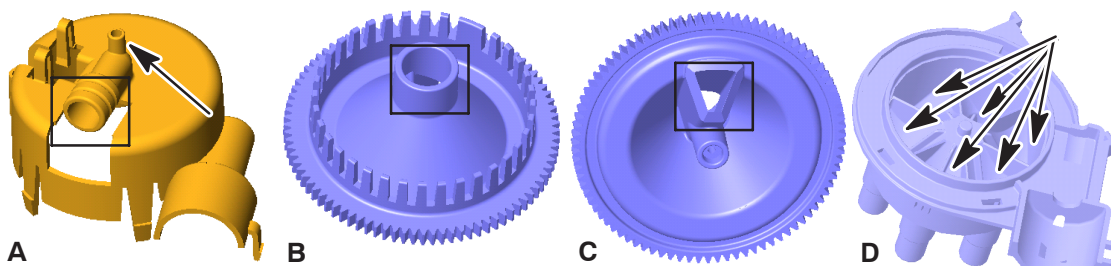

Fig. 12 Water selector components
- The dosed hot water is pumped into the top of the water selector (fig.12 A).
- The water runs through the central hole of the distribution disc (fig.12 B). It comes out through the slanted hole at the bottom (fig.12 C).
- After this, the water falls into one of the chambers in the bottom of the water selector (fig.12 D).
The arrow in fig.12 A shows a small hole on the top of the water selector cover. This is an aeration hole, which prevents siphoning. A hose, which goes to the top of the float tank, is connected to the tulle.